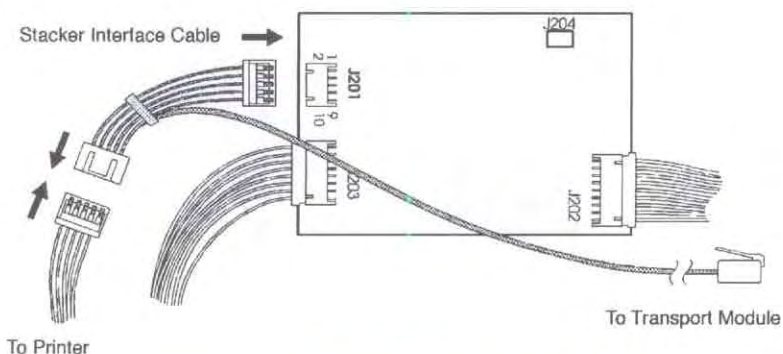

Figure 1-12.
6. Connect one end of the stacker interface cable to the J201 connector on the sensor PCA, and connect the other side of the stacker's cable to the printer's cable, as shown in Figure 1-12. The pigtail will be routed out the rear of the printer to be attached to the Transport Module.